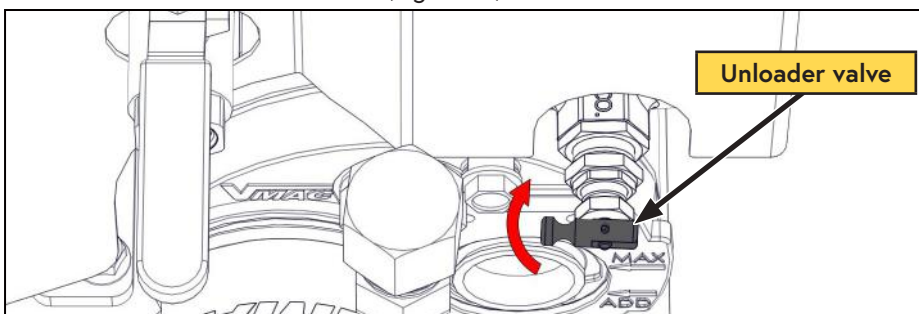

Figure 22 — Unloader valve
- 8) Once the engine has reached normal operating temperature, release the tension on the unloader valve (Figure 22).